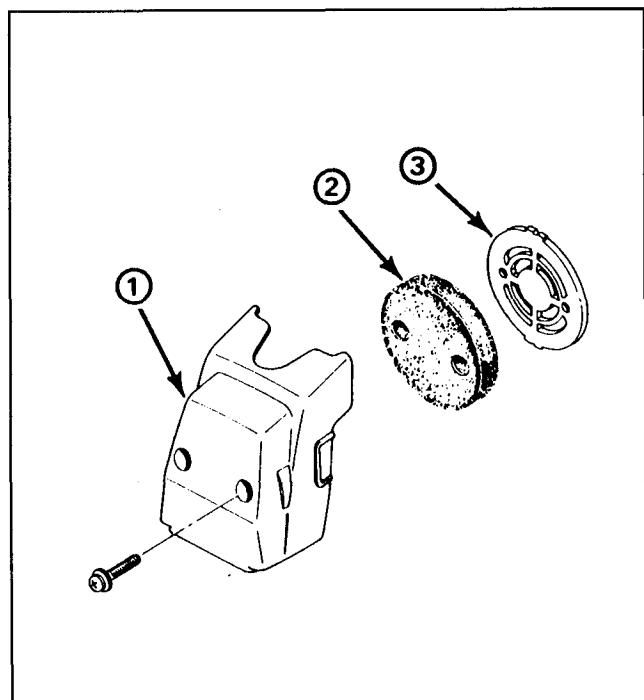

Figure 17
## SERVICING AIR CLEANER (Fig. 17)
6. Reinstall air cleaner components as shown in Figure 17.
1. Remove two (2) screws securing air cleaner cover to trimmer.
5. Reinstall air cleaner cover and air cleaner components to trimmer. See Servicing Air Cleaner, Figure 17 for component sequence.